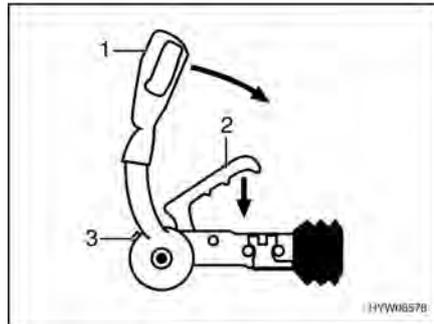

Fig. 4 AKS 3004 stabiliser
- Pull up the stabilising lever (Fig. 4,1) as far as possible.
- Pull the coupling handle (Fig. 4,2) upwards.
- Conduct a visual inspection: The green cylinder on the safety indicator (Fig. 4,3) must be visible.
- Activate the stabilising mechanism. Push the stabilising lever (Fig. 4,1) down to its stop limit.